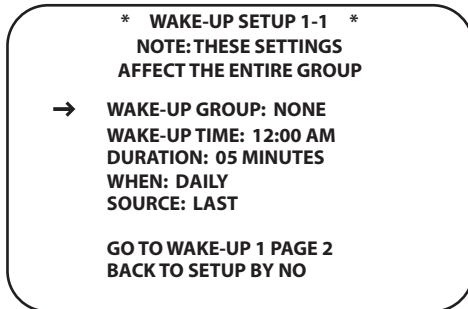

Figure 71.
- Using the **▲/▼ Navigation Button 16** position the cursor next to **SET WAKE-UP TIMES**. Press the **Set Button 18**. The **WAKE-UP SETUP 1-1** screen will appear (**Figure 71**).